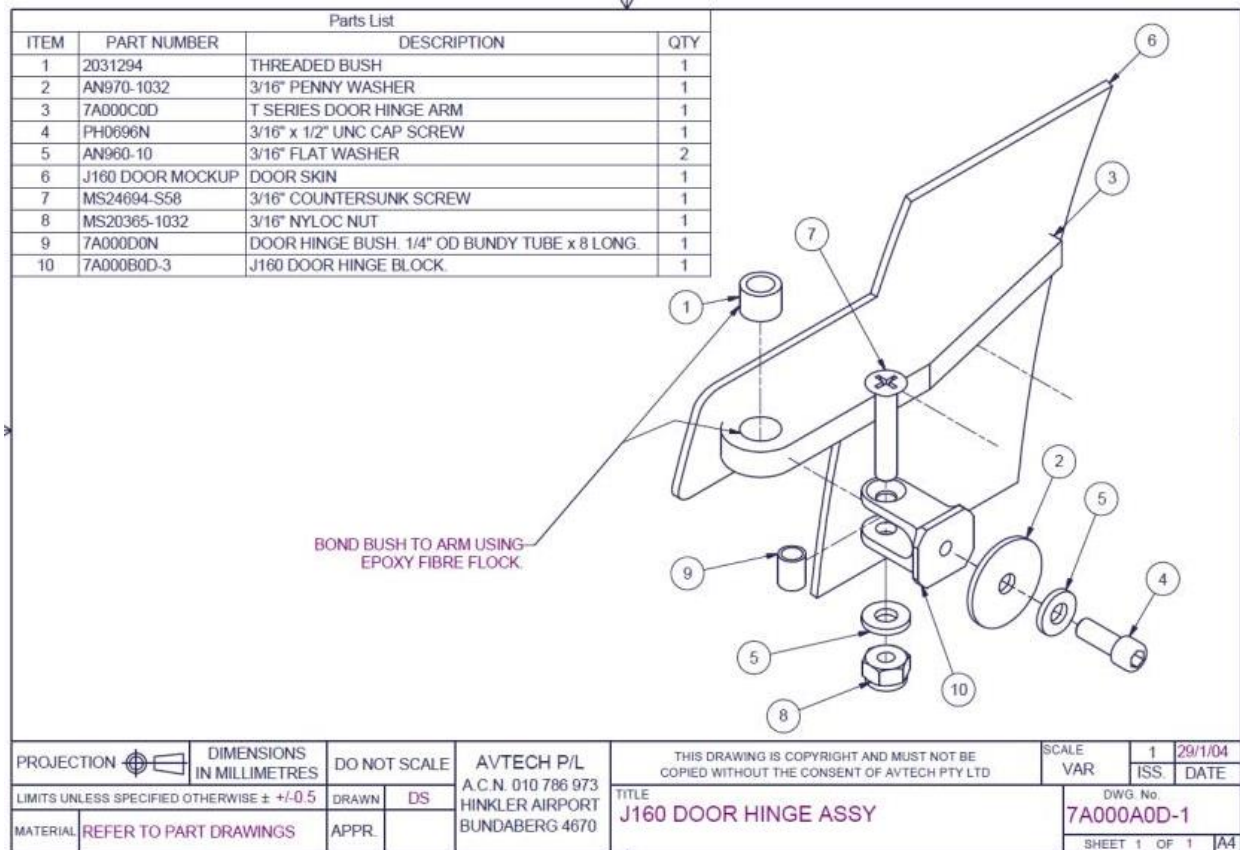

Figure 42 – J160-Type Door Hinge Assy (all J-Series, n/a J200/J400)
- J160-Type cabin doors are those which use the door hinge assembly shown in Figure 42 and the latch shown in Figure 47. While early J200-family aircraft used a different hinge, later variants are equipped with “J160-Type” doors.
- There is one main latch on each door of a simple spring type. This is complemented by a catch at the top front quadrant of each door. An assembly drawing of the latch mechanism is provided as Figure 42 below while the door-top latch is shown as Figure 48.